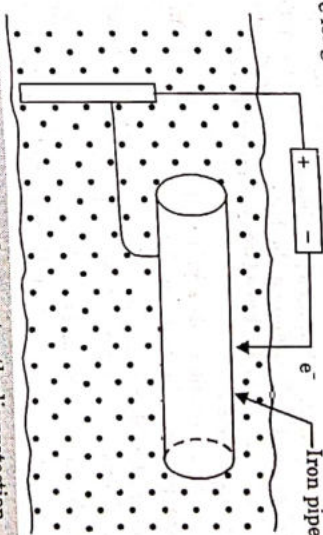

Fig. 3.17.3. Impressed current cathodic protection.
b. Impressed current cathodic protection : This method known as electrolytic method of cathodic protection, the object to be protected is made cathode by connecting it to negative terminal of DC source. The positive terminal is connected to an insoluble anode like graphite, scrap iron or platinum. The objective is to apply the current from an external source (insoluble anode) in the opposite direction to that of the corrosion current. The insoluble anode is buried in the soil or in the conducting medium adjacent to the metal which is to be protected (Fig. 3.17.3.). These are placed in such a manner that a uniform potential is obtained over the entire metal surface. The electrons flow to the metal structure